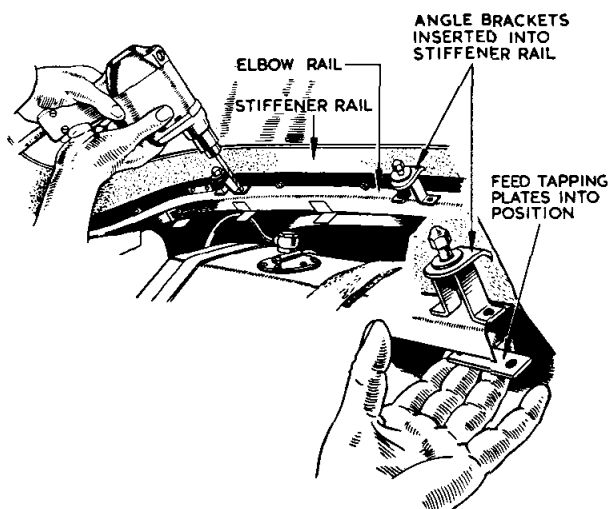

Fig. 4 Drilling the Elbow Rail and installing Bridge Pieces.
- (b) If not already fitted, insert the three shorter angle brackets through slots in the stiffener rail at the rear of the "Hard Top", and a longer angle bracket at each side. Using short flat headed screws and lockwashers, secure the brackets in position. (Fig. 4.)
(a) Loosely secure the five bridge pieces to the angle brackets previously fitted in the rear stiffener rail. (Fig. 4.)
(b) Reposition the "Hard Top" to the car and secure to the three windscreen attachment brackets. The bridge pieces will now be resting on the elbow rail channel. (Fig. 4.)
(e) Remove the bridge pieces from the "Hard Top" and secure to the elbow rail channel, using flat headed screws which screw into tapping plates fed into position under the channel. (Fig. 4.)